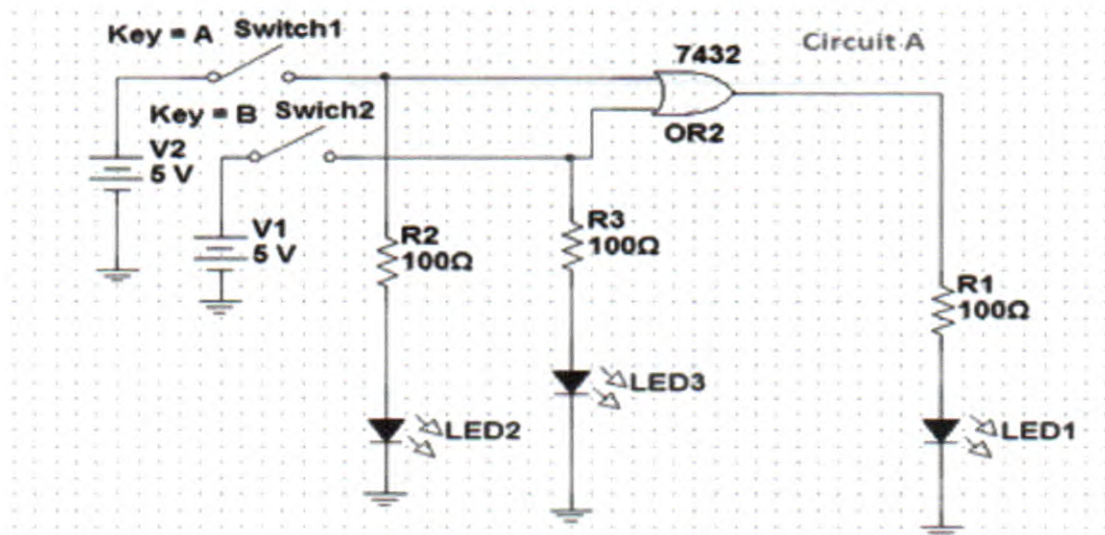

Figure 1.2: Demonstration of OR-gate operation
1. Connect the circuits shown in Figures 1.2 – 1.8 using the logic gate provided.
3. Show the truth table for Figures 1.2 – 1.8. Observe the input and output of various logic gates used through the LED.